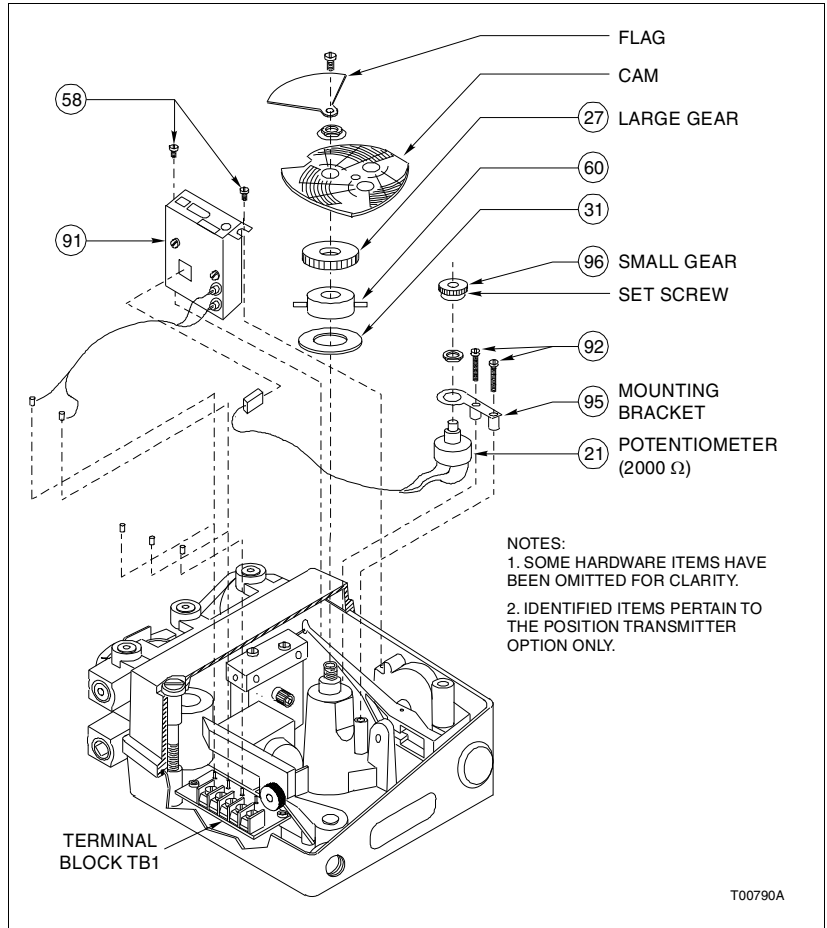

Figure A-5. 4 to 20-mA Position Transmitter (Exploded View)
a. Remove the cam, by removing the screw, flag, nut and washer (Fig. A-5 and Table A-2).
b. Loosen the set screw on the hub of the small gear using a $\frac{1}{16}$ -in. Allen wrench (Fig. A-5 and Table A-2).
NOTE: If the mesh between the large and small gears is not tight, adjust the position of the potentiometer mounting bracket (Fig. A-5 and Table A-2) so that backlash is eliminated.
e. Remove the ohmmeter from TB1-1 and TB1-2. Install the cam, screw, flag, nut and washer (Fig. A-5 and Table A-2).